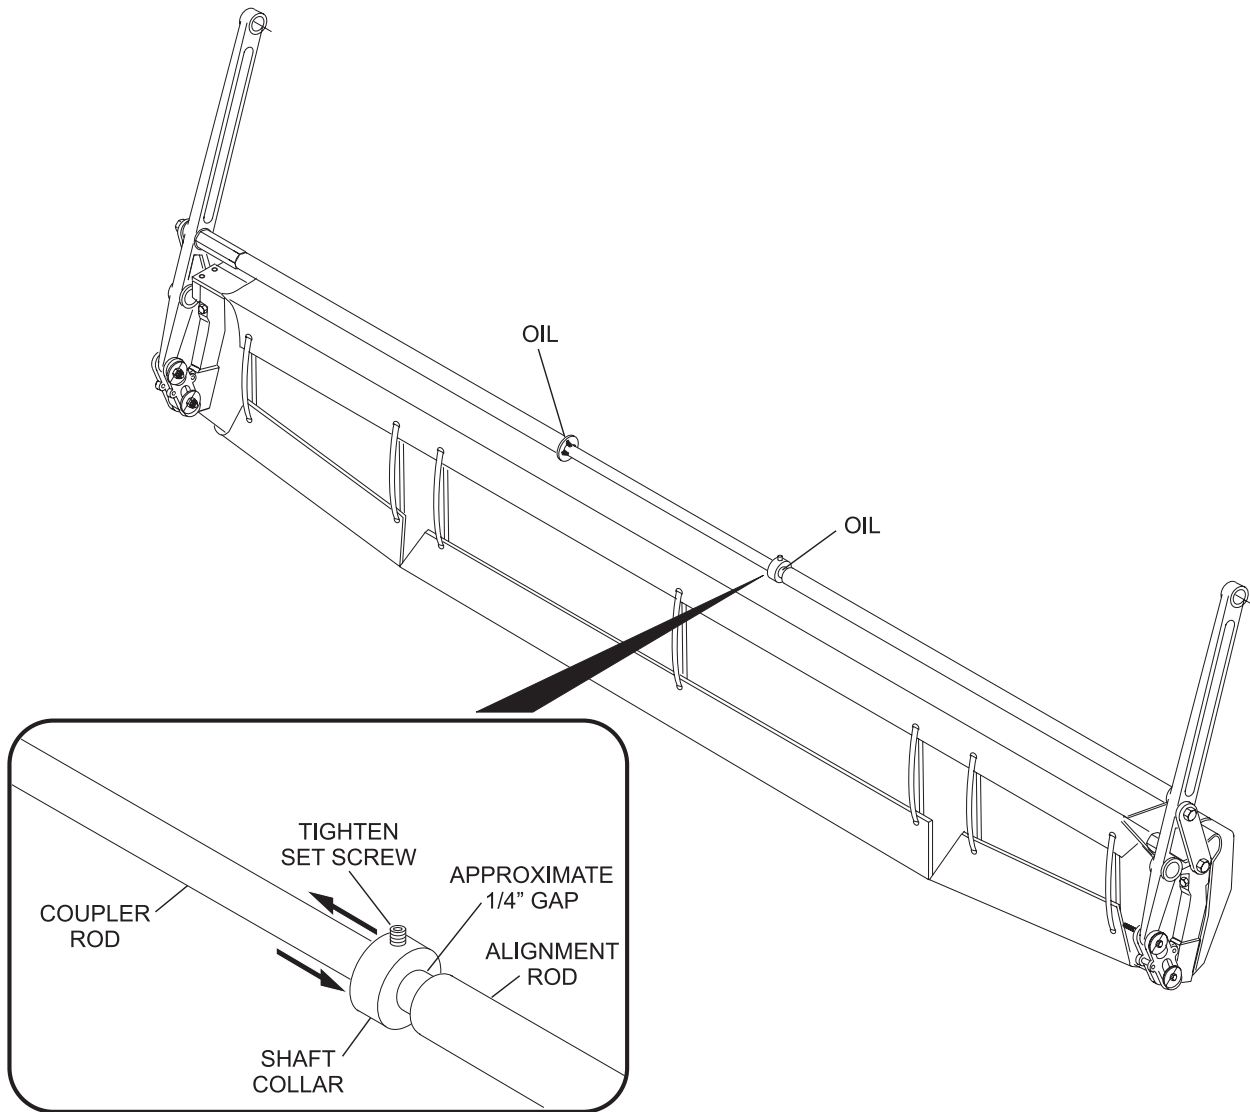

Figure 6
8. With one of the alignment rods against the non-welded side of the coupler rod, adjust the shaft collar so there is a gap of approximately 1/4" between it and the end of the alignment rod. Refer to *Figure 6*.
9. Firmly tighten the set screw on the shaft collar. Refer to *Figure 6*.
10. Place a couple of drops of oil on both sides of the coupler rod where they are inserted into the alignment rods. Refer to *Figure 6*.